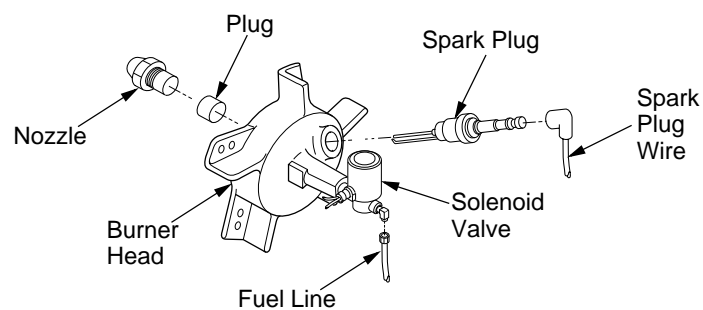

Figure 10 - Replacing Nozzle
7. Carefully remove nozzle from burner head using 5/8" socket wrench (see Figure 10).